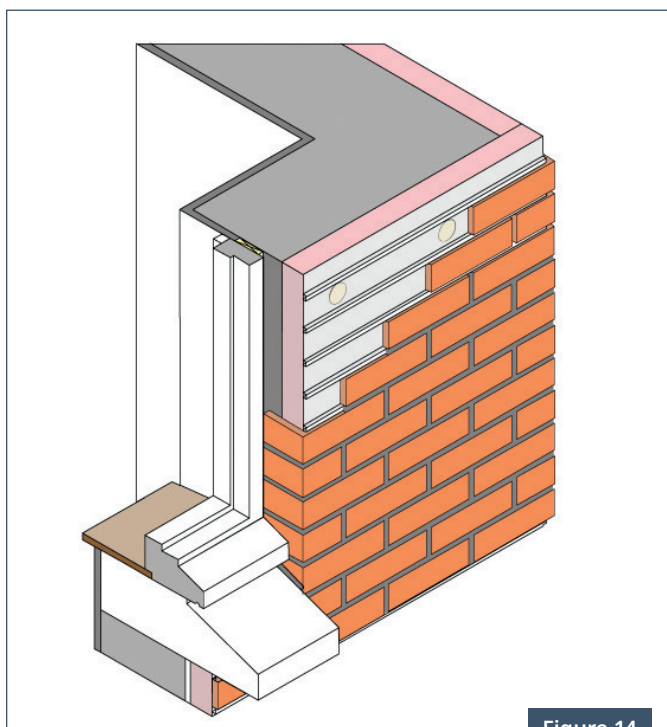

Figure 14
**Masonry:** Brick may be attached directly to the masonry surface. To install brick, apply a bead of adhesive under the top edge of the brick track on the panel and onto the surface of the reveal. Push corner brick into the brick track. See Figure 14.